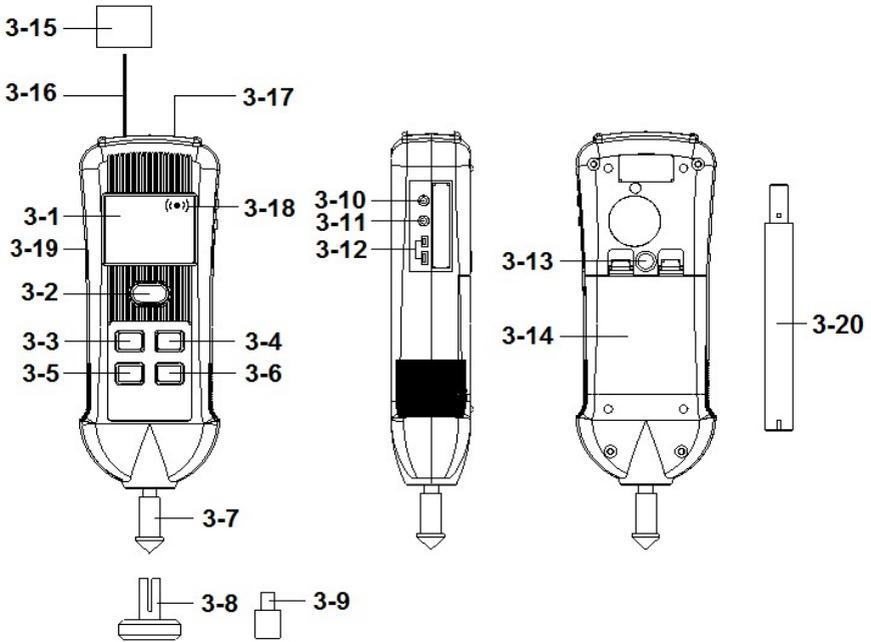

Fig. 1
- 1) Power On the meter by pressing and hold the " Power button " ( 3-2, Fig. 1 ) >1.5 seconds , the LCD will light.
- 2) Press the " Function button " ( 3-6, Fig. 1 ) once in sequence until to the " Photo RPM " function be selected, in the same time the " Photo light beam " ( 3-16, Fig. 1 ) will be generated.
- 3) Apply a " Reflecting mark " ( 3-15, Fig. 1 ) to the object being measured. and align the " Photo light beam " ( 3-16, Fig. 1 ) with the applied target. Verify that the " Monitor Indicator " ( 3-18, Fig. 1 ) lights when the target pass through the light beam.
- 1) Power On the meter by pressing and hold the " Power button " ( 3-2, Fig. 1 ) >1.5 seconds, the LCD will light.
- 2) Press the " Function button " ( 3-6, Fig. 1 ) once in sequence until to the " Contact RPM " function be selected.
- 3) Lightly pressing the " RPM Adapter " ( 3-7, Fig. 1 ) against the center hole on the hole of the measured rotating axis.
Making the contact RPM measurement due to different kind measured rotating axis, it may changed the rubber for RPM adapter from " CONE " type to " FUNNEL " type ( 3-9, Fig. 1 )
- 1) Power On the meter by pressing the " Power button " ( 3-2, Fig. 1 ) > 1.5 sec., the LCD will light.
- 2) Short Press the " Function button " ( 3-6, Fig. 1 ) once again and again until lcd display show the " touch " text, then short press the "UNIT Button" to select the Surface Speed Measurement unit " m/min ", " ft/min " or " in./min. " .
- 3) Change the " RPM Adapter " instead of the " Surface Speed Test Wheel " ( 3-8, Fig. 1 ).
- 2) Press the " Function button " ( 3-6, Fig. 1 ) once in sequence until to the " SCOPE RPM " function be selected, in the same time the " Stroboscope flash light (red) indicator " (3-17, Fig. 1 ) will be Light.
Use the " x 2 button(▲ button) " ( 3-3, Fig. 1 ) or " / 2 button(▼ button) " ( 3-5, Fig. 1 ) to adjust the display value near the estimate setting signal's RF approximately..
- 1) Use the " ▲+ button " ( 3-3, Fig. 1 ) , " ▼ - button " ( 3-5, Fig. 1 ) to adjust the exact display value.
- 2) Press the " Function button " ( 3-6, Fig. 1 ) (short push) in sequence until to the " TYPE k " function be selected.
- 3) type k probe inserted into the thermocouple probe terminal " thermocouple probe terminal " ( 3-12, Fig. 1 ).
- 2) Press the " Function button " ( 3-6, Fig. 1 ) (short push) in sequence until to the " P t " function be selected.
- 3) TP-1000 probes are connected to the pt 1000  $\Omega$  probe terminal " ( 3-11, Fig. 1 ).
- 1) The data record function records the maximum and minimum readings. Press the " REC Button " ( 3-4, Fig.1 ) once to start the Data Record function and there will be a " REC "Symbol indicator " will be light.
- a) Press the " REC Button " ( 3-4, Fig. 1 ) once, the " REC and MAX Symbol indicator will be light , and the maximum value will appear on the display.
- b) Press the " REC Button " ( 3-4, Fig. 1 ) again, the " REC and MIN " Symbol indicator will be light , and the minimum value will appear on the display.
press the " FUNCTION (SET) Button " ( 3-6, Fig. 1 ) continuously at least Five seconds will enter the " Advanced Setting " mode. then press the " FUNCTION (SET) Button " ( 3-6, Fig. 1 ) once a while in sequence to select the two main function, the display will show :
- 1) Use the " ▲ button " ( 3-3, Fig. 1 ) or " ▼ button " ( 3-5, Fig. 1 ) to select the upper text to " yES " or " no ".
- 2) After select the text to " yES " or " no ", press the " REC(Enter) Button " ( 3-4, Fig.1 ) will save the setting function with default.
- 1) Use the " ▲ button " ( 3-3, Fig. 1 ) or " ▼ button " ( 3-5, Fig. 1 ) to select the upper Display text to " C " or " F ".
- 2) After Display unit is selected to " C " or " F ", press the " REC(Enter) Button " ( 3-4, Fig.1 ) will save the setting function with default.
- 2) take away the " Battery Cover " ( 3-14, Fig. 1 ) from the instrument and remove the battery.
The instrument has RS232 PC serial interface via a 3.5 mm terminal ( 3-10, Fig. 1 ).